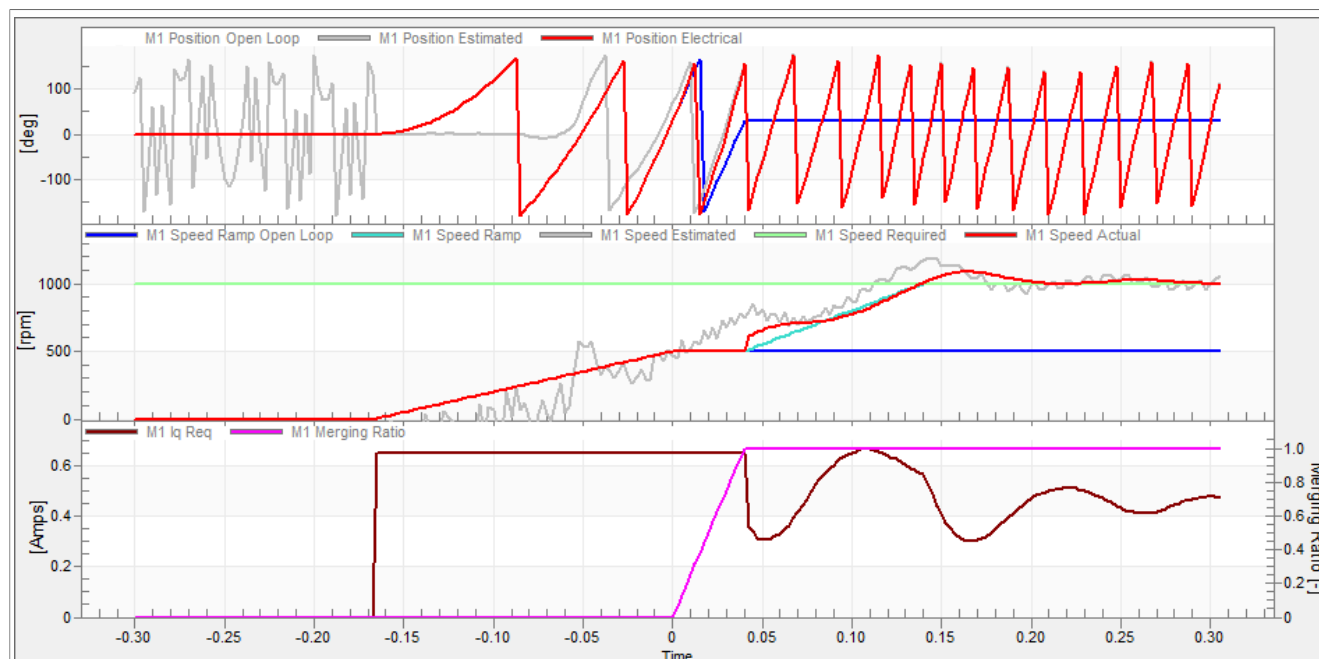

Figure 28. Motor startup
1. The startup process can be tuned by a set of parameters located in the "Sensorless" tab. Two of them (ramp increment and current) are accessible in both tuning modes. The startup tuning can be processed in all control modes besides the scalar control. Setting the optimal values results in a proper motor startup. An example startup state of low-dynamic drives (fans, pumps) is shown in Figure 28.